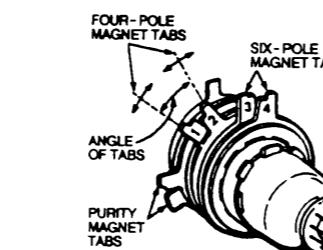

Fig 17.
- 1: Demagnetise the picture tube and receiver using an external degaussing coil. When replacing picture tube or deflection yoke, mount deflection yoke and purity-convergence magnets assembly properly, see figs. 17 and 18. Turn red and blue guns off and provide only green raster. Rotate screen control to fully counterclockwise. Rotate red and blue bias controls fully counterclockwise. Slowly rotate green bias control clockwise to produce green raster.